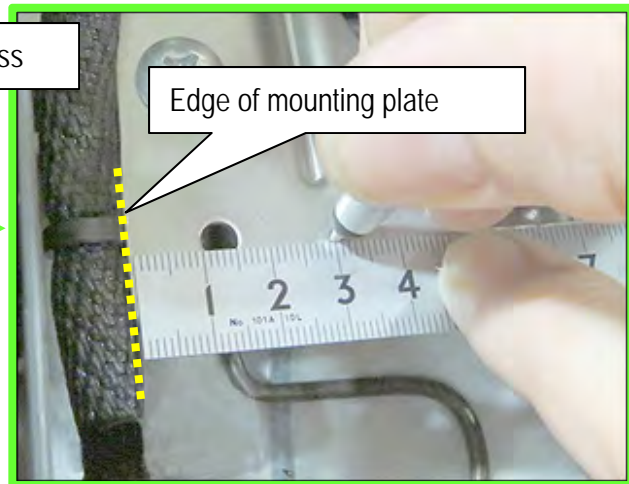

Figure 12
15. Using a ruler, measure approximately 30 mm from the left edge of the climate controlled seat control unit mounting plate, and then mark as shown in Figure 12.